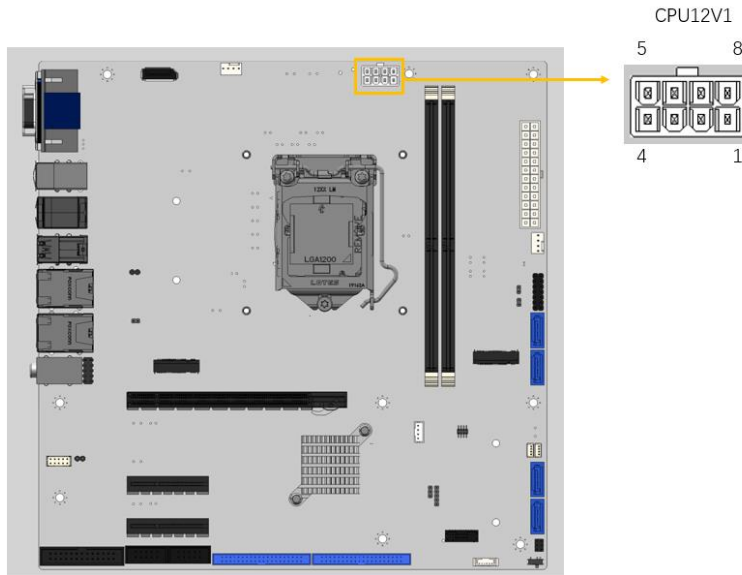

Figure 3-2: CPU 12V Power Connector Location
- CN Location:** See Figure 3-2